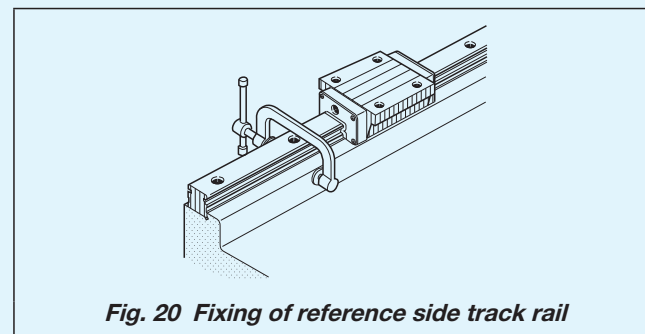

Fig. 20 Fixing of reference side track rail
③ Fixing of Linear Way I track rail
- Use small type vise or the like to stick track rail reference mounting surface to the reference mounting surface of the bed and tighten the fixing bolt at the same position. Repeat this method from one end to fix the track rail in order. (See Fig. 20)